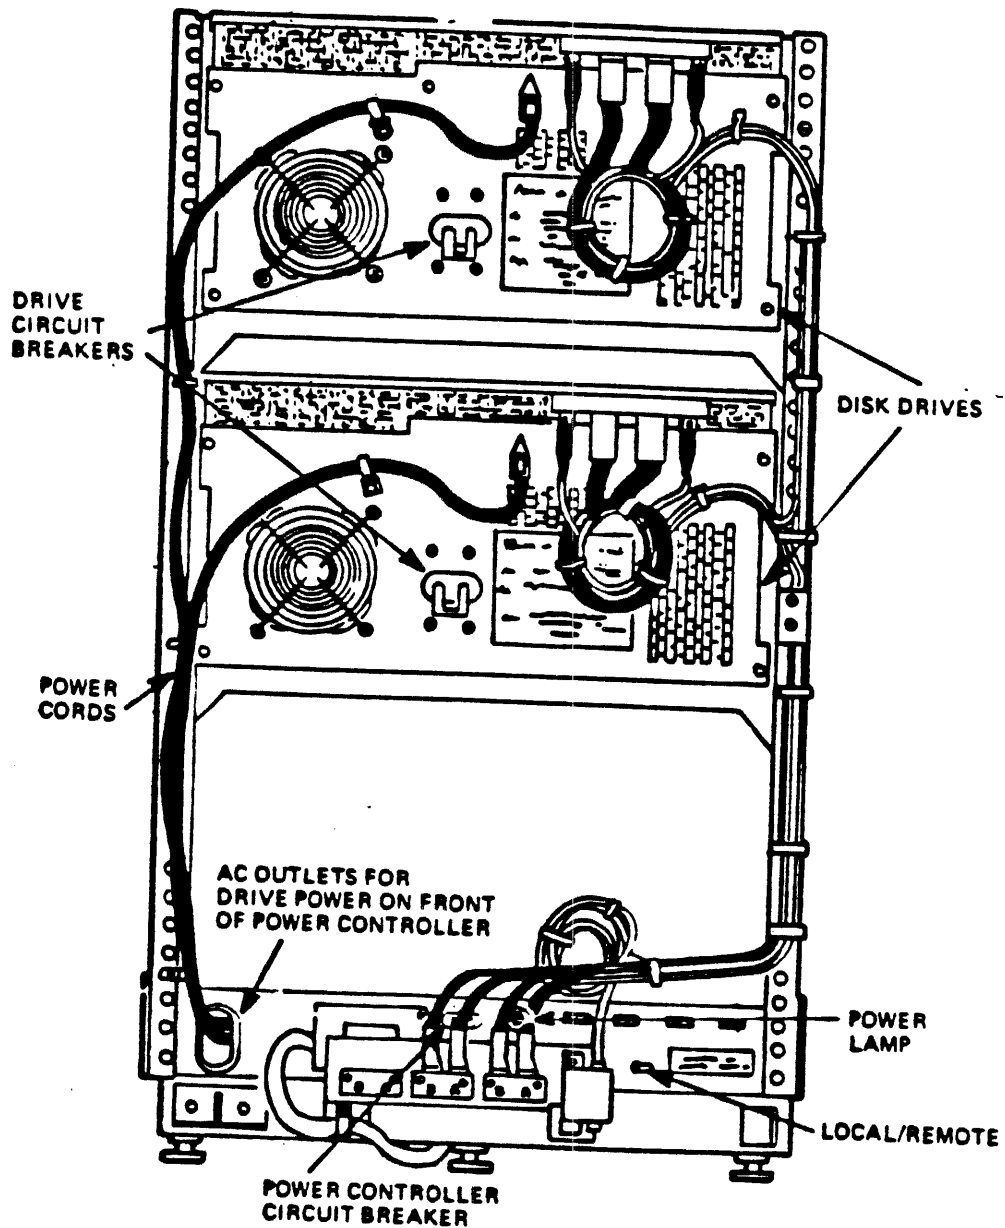

Figure 2 BACK OF AN RAB1 DRIVE
29. Reconnect the AC power cord at the rear of drive, to the AC receptacle (FIGURE 2).
30. Turn the AC Circuit Breaker, at the rear of the drive, to the "ON" position (FIGURE 2).